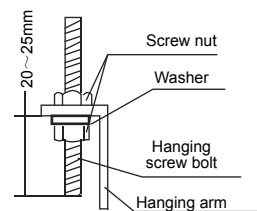

Fig. 4-11
- Locate the hanging arm on the hanging screw bolt. (Refer to Fig. 4-11) Prepare the mounting bolts on the unit. (Refer to Fig. 4-12)